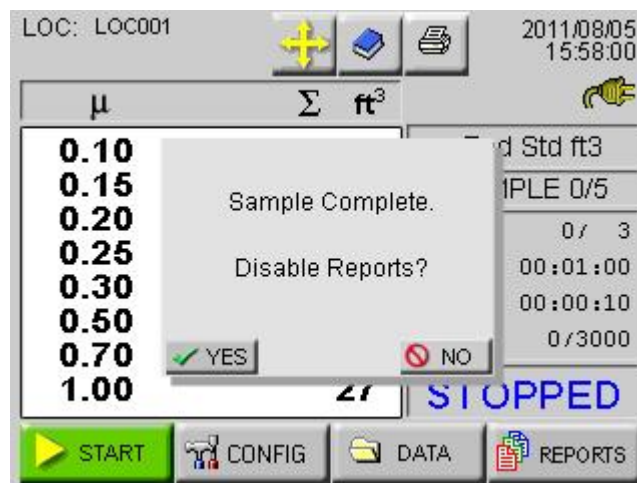

Figure 6-88 Disable Reports Prompt
- After the required number of samples have been completed, the instrument will prompt the user to disable Reports Mode as shown in Figure 6-88.